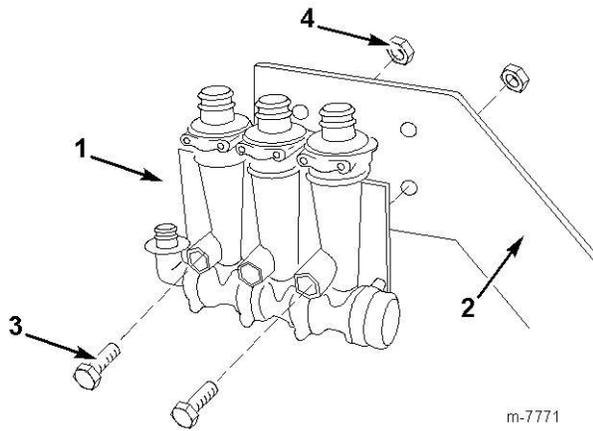

Figure 9
5. Install the flowmeter to bracket with two bolts (1/4 x 2 inch), and two locknuts (1/4 inch) as shown in Figure 9.